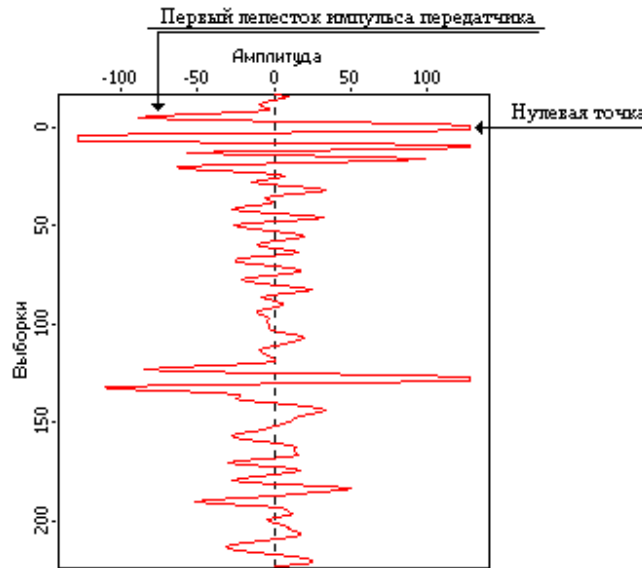

Fig. 4.1. Example of displaying the trace
4. **Zero point** – Trace sample corresponding to the transmitter's emission maximum instant. It is this very sample whereto the scale numbering zero falls along traces, i.e. the delay time of a reflected signal should be counted from this sample. As it was mentioned earlier, an impulse of the transmitter is approximately a 1.5-cycle (three-lobe) signal. It means that the zero point should be aligned with the middle of the *second* lobe of the impulse of the transmitter. The method of adjustment of the zero point is described in chapter 10 of this manual. This is a very important parameter taken into account in the calculation of signal time delays to determine the depth of the target location in the probed medium. Examples of the location of the zero point are shown on Fig. 4.1, 4.2 and 4.3.